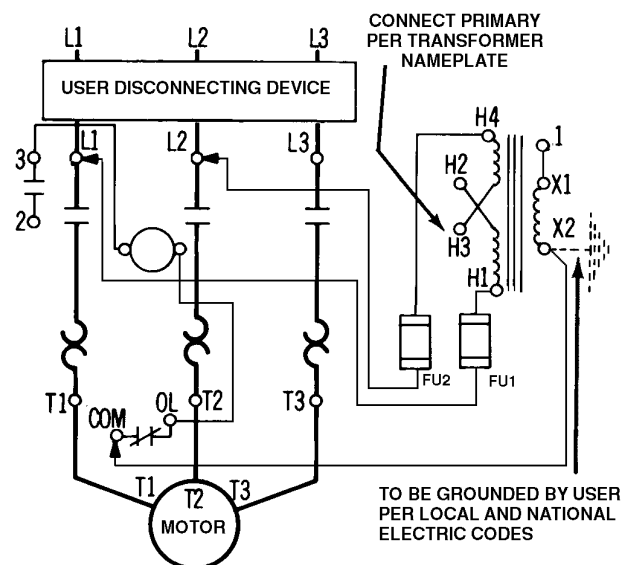

Figure 3 **Wiring Diagram for Starter**
3. Wire per diagram in Figure 3 on page 2 of this bulletin.
When mounting the transformer unit onto starter, wire per diagram in Figure 3.